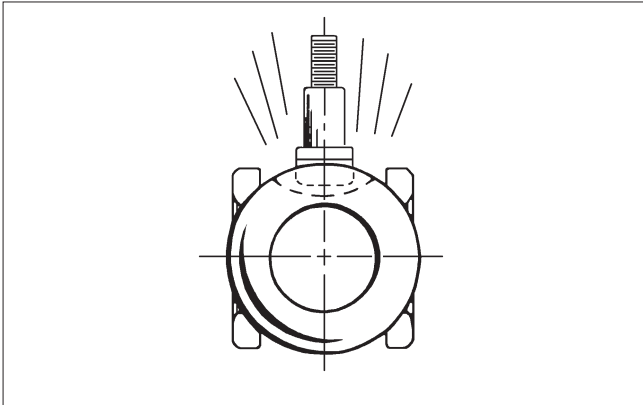

Figure 3.
1. Slide one valve seat (5) sidewise into the body cavity (1) to just below the stem hole and tilt it into place so that the proper face will come in contact with the ball (3) (see **Figure 3**). Do not scratch or cut the seat faces.
8. Insert the ball (3) rotating it onto the stem (4) in the closed position. If necessary, turn the stem blade to align with the ball slot.
9. Insert the second seat (5) so that the sealing surface of the seat is towards the ball (see **Figure 3**).
10. Insert the body seal (6) and gently press it into the groove in the body.